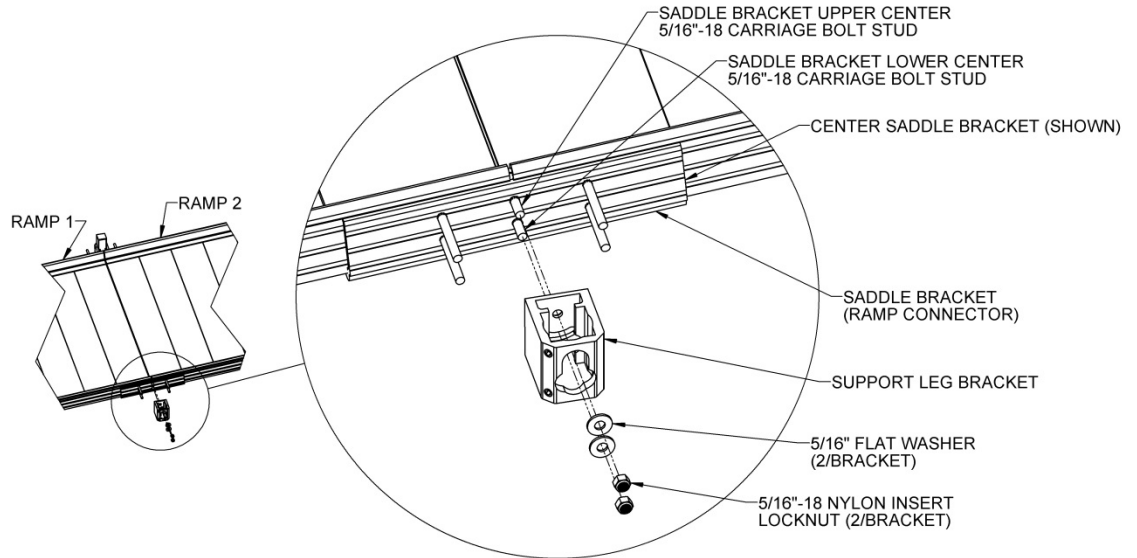

FIG. 3.5
- 3.3.1. Install the Support Leg Bracket on the center studs of the Center Saddle Bracket (ramp connector) with the round hole on the upper stud and the curved slot over the lower stud (FIG. 3.5).